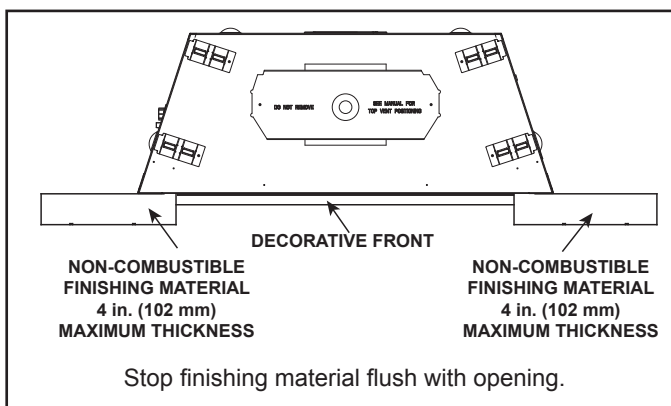

Figure 10.8 Firescreen Decorative Front
**Flush Mounting Firescreen Front:** 20 mm of non-combustible finishing material may be used to create a flush mounted front. See Figure 10.8.